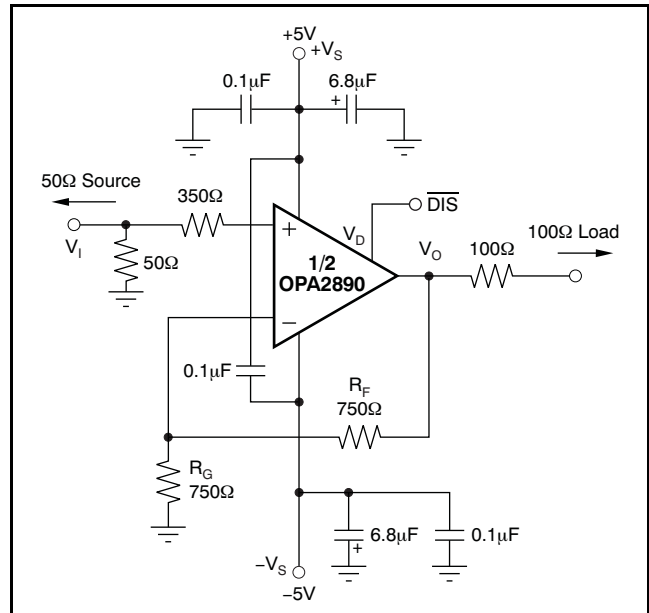
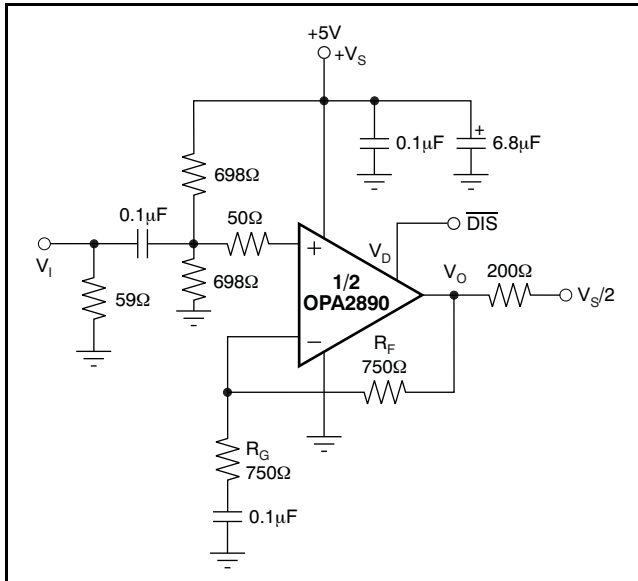
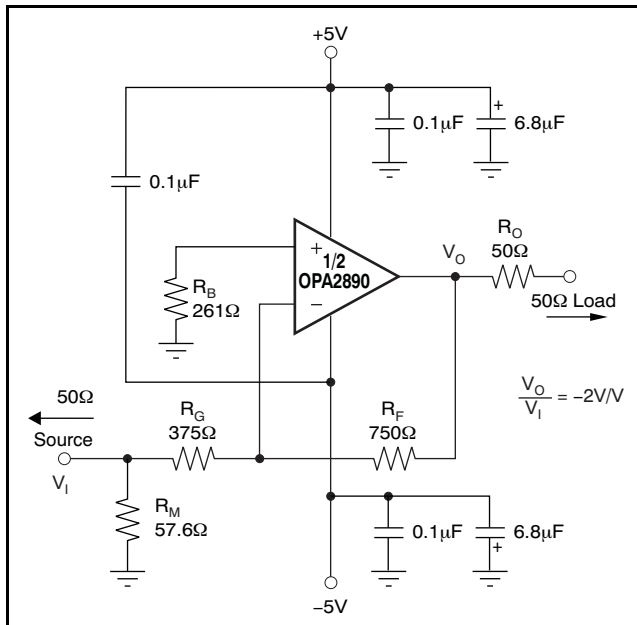

Figure 49. DC-Coupled, G = +2V/V, Bipolar Supply, Specification and Test Circuit
Figure 50. DC-Coupled, $G = +2V/V$, Single-Supply, Specification and Test Circuit
Figure 59. Gain of $-2V/V$ Example Circuit
At $T_A = +25^\circ C$, $G = +2V/V$, $R_F = 750\Omega$, and $R_L = 200\Omega$, unless otherwise noted. See Figure 49.
Figure 49 shows the DC-coupled, gain of +2V/V, dual power-supply circuit configuration used as the basis of the ±5V Electrical Characteristics and Typical Characteristics. This illustration is for one channel; the other channel is connected similarly. For test purposes, the input impedance is set to 50Ω with a resistor to ground and the output impedance is set to 200Ω. Voltage swings reported in the Electrical Characteristics are taken directly at the input and output pins, while output powers (dBm) are at the matched 50Ω load. For the circuit of Figure 49, the total effective load is 200Ω || 1.5kΩ. The disable control line (MSOP-10 package only) is typically left open for normal amplifier operation. Two optional components are included in Figure 49. First, an additional resistor (350Ω) is included in series with the noninverting input. Combined with the 25Ω dc source resistance looking back towards the signal generator, this resistor gives an input bias current cancelling resistance that matches the 750Ω source resistance seen at the inverting input (see the DC Accuracy and Offset Control section). In addition to the usual power-supply decoupling capacitors to ground, a 0.1μF capacitor is also included between the two power-supply pins. In practical printed circuit board (PCB) layouts, this optional capacitor typically improves the 2nd-harmonic distortion performance by 3dB to 6dB.
Figure 50 illustrates the ac-coupled, gain of +2V/V, single-supply circuit configuration used as the basis of the +5V Electrical Characteristics and Typical Characteristics. Though not a rail-to-rail design, the OPA2890 requires minimal input and output voltage headroom compared to other very wideband voltage-feedback op amps. It delivers a 3V_{PP} output swing on a single +5V supply with greater than 80MHz bandwidth. The key requirement of broadband single-supply operation is to maintain input and output signal swings within the usable voltage ranges at both the input and the output. The circuit of Figure 50 establishes an input midpoint bias using a simple resistive divider from the +5V supply (two 698Ω resistors). Separate bias networks would be required at each input. The input signal is then ac-coupled into the midpoint voltage bias. The input voltage can swing to within 1.5V of either supply pin, giving a 2V_{PP} input signal range centered between the supply pins. The input impedance matching resistor (59Ω) used for testing is adjusted to give a 50Ω input load when the parallel combination of the biasing divider network is included.
A good rule of thumb is to target the parallel combination of R_F and R_G (see Figure 49) to be less than approximately 400Ω. The combined impedance $R_F \parallel R_G$ interacts with the inverting input capacitance, placing an additional pole in the feedback network and thus, a zero in the forward response. Assuming a 2pF total parasitic on the inverting node, holding $R_F \parallel R_G < 400\Omega$ keeps this pole above 160MHz. By itself, this constraint implies that the feedback resistor R_F can increase to several kΩ at high gains. This increase in resistor size is acceptable as long as the pole formed by R_F and any parasitic capacitance appearing in parallel is kept out of the frequency range of interest.
Voltage-feedback op amps exhibit decreasing closed-loop bandwidth as the signal gain increases. In theory, this relationship is described by the Gain Bandwidth Product (GBP) shown in the Electrical Characteristics. Ideally, dividing GBP by the noninverting signal gain (also called the Noise Gain, or NG) predicts the closed-loop bandwidth. In practice, this principle only holds true when the phase margin approaches 90°, as it does in high gain configurations. At low gains (increased feedback factors), most amplifiers exhibit a more complex response with lower phase margin. The OPA2890 is compensated to give a slightly peaked response in a noninverting gain of 2V/V (see Figure 49). This compensation results in a typical gain of +2V/V bandwidth of 100MHz, far exceeding that predicted by dividing the 60MHz GBP by 2. Increasing the gain causes the phase margin to approach 90° and the
The frequency response in a gain of +2V/V may be modified to achieve exceptional flatness simply by increasing the noise gain to 2.5V/V. One way to modify the response without affecting the +2V/V signal gain, is to add an 1.5kΩ resistor across the two inputs, as illustrated in the circuit of Figure 49. A similar technique may be used to reduce peaking in unity-gain (voltage follower) applications. For example, by using a 750Ω feedback resistor along with a 750Ω resistor across the two op amp inputs, the voltage follower response is similar to the gain of +2V/V response of Figure 50. Reducing the value of the resistor across the op amp inputs further limits the frequency response due to increased noise gain.
The OPA2890 is a general-purpose, wideband, voltage-feedback op amp; therefore, all of the familiar op amp application circuits are available to the designer. Inverting operation is one of the more common requirements and offers several performance benefits. See Figure 59 for a typical inverting configuration where the I/O impedances and signal gain from Figure 49 are retained in an inverting circuit configuration.
The second major consideration, touched on in the previous paragraph, is that the signal source impedance becomes part of the noise gain equation and influences the bandwidth. For the example in Figure 59, the R_M value combined in parallel with the external 50Ω source impedance yields an effective driving impedance of $50\Omega \parallel 57.6\Omega = 26.7\Omega$. This impedance is added in series with R_G for calculating the noise gain (NG). The resultant NG is 2.86V/V for Figure 59, as opposed to only 2V/V if R_M could be eliminated as discussed above. Therefore, the bandwidth is slightly lower for the gain of $-2V/V$ circuit of Figure 59 than for the gain of $+2V/V$ circuit of Figure 49.
signal reaches very high frequency or power levels, the 2nd harmonic dominates the distortion with a negligible 3rd harmonic component. Focusing then on the 2nd harmonic, increasing the load impedance improves distortion directly. Remember that the total load includes the feedback network; in the noninverting configuration (see Figure 49), this value is the sum of $R_F + R_G$, while in the inverting configuration it is only R_F . Also, providing an additional supply-decoupling capacitor (0.1 μ F) between the supply pins (for bipolar operation) improves the 2nd-order distortion slightly (3dB to 6dB). Operating differentially also lowers 2nd-harmonic distortion terms (see the plot on the front page).
Evaluating these two equations for the OPA2890 circuit and component values (see Figure 49) gives a total output spot noise voltage of 17.5nV/ $\sqrt{\text{Hz}}$ and a total equivalent input spot noise voltage of 8.7nV/ $\sqrt{\text{Hz}}$. This result includes the noise added by the bias current cancellation resistor (350 Ω) on the noninverting input. This total input-referred spot noise voltage is only slightly higher than the 8nV/ $\sqrt{\text{Hz}}$ specification for the op amp voltage noise alone. This result is the case as long as the impedances appearing at each op amp input are limited to the previously recommend maximum value of 400 Ω . Keeping both ($R_F \parallel R_G$) and the noninverting input source impedance less than 400 Ω satisfies both noise and frequency response flatness considerations. Because the resistor-induced noise is relatively negligible, additional capacitive decoupling across the bias current cancellation resistor (R_B) for the inverting op amp configuration of Figure 59 is not required.
The balanced input stage of a wideband voltage-feedback op amp allows good output dc accuracy in a wide variety of applications. The power-supply current trim for the OPA2890 gives even tighter control than comparable amplifiers. Although the high-speed input stage does require relatively high input bias current (typically 5µA out of each input terminal), the close matching between them may be used to reduce the output dc error caused by this current. The total output offset voltage may be considerably reduced by matching the dc source resistances appearing at the two inputs. This matching reduces the output dc error resulting from the input bias currents to the offset current times the feedback resistor. Evaluating the configuration of Figure 49, and using worst-case +25°C input offset voltage and current specifications, gives a worst-case output offset voltage equal to: